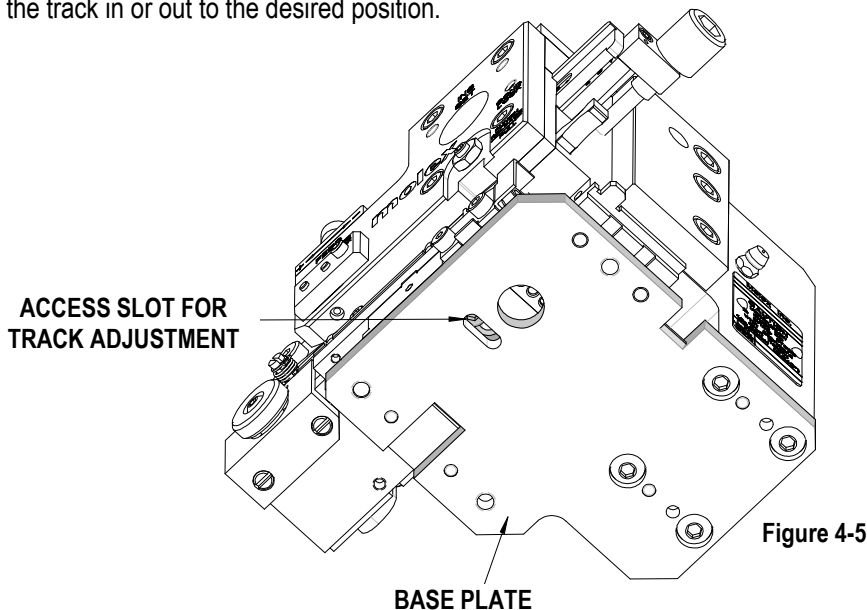

Figure 4-5
5. To position the terminal track in or out, use a 4mm hex wrench to loosen the M5 lock screw located on the underside of the track. This screw can be accessed through a slot in the Crimp Module's base plate. See Figure 4-5.